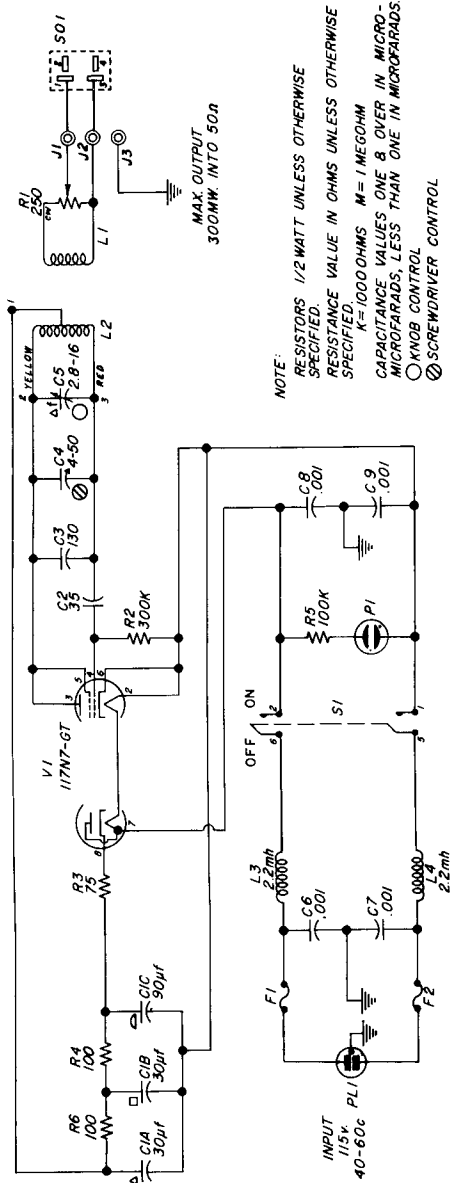

Figure 12. Schematic Diagram, Type 1214-M Unit Oscillator.
3.3 TYPE 1214-M. Connect the device to be driven to the output of the Type 1214-M, using either the side multipoint connector (see Figure 12 for proper connections) or the panel jack-top binding posts. For grounded output, connect the link between the lower two binding posts. Connect the Unit Oscillator to a 115-volt, 40-60-cps source, and snap the power switch ON. The panel lamp should light to indicate application of power.